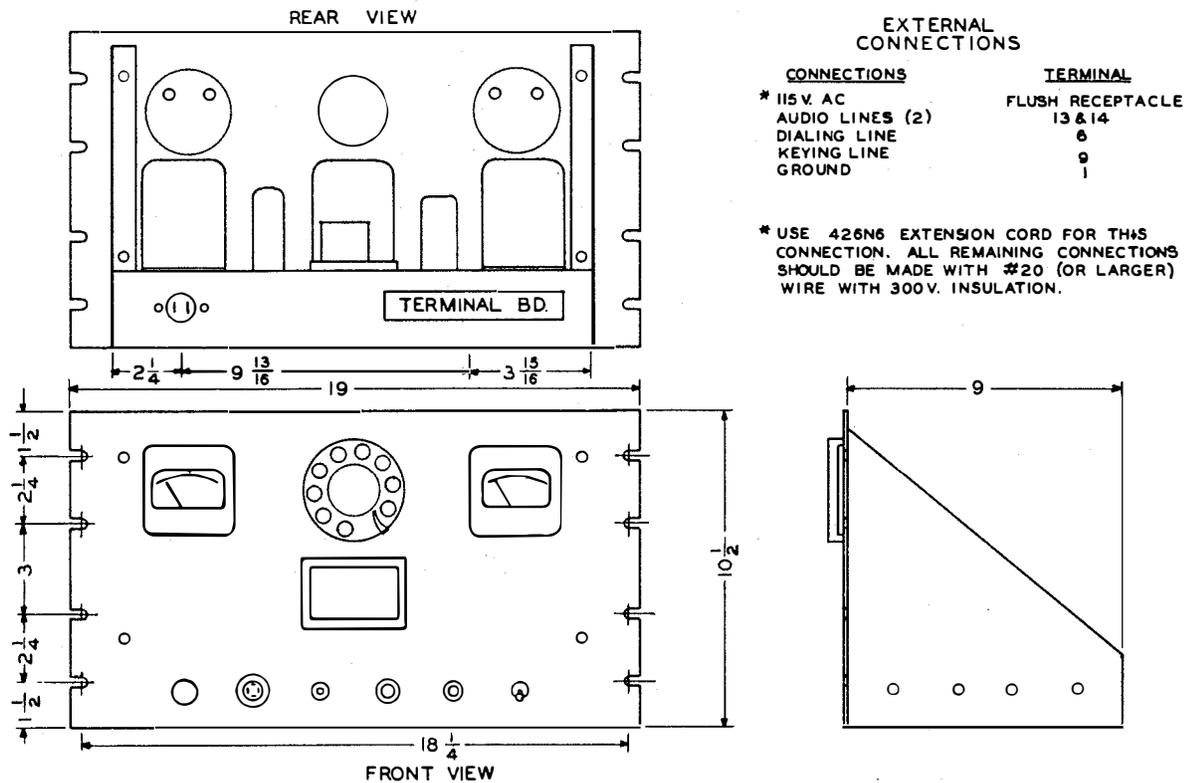

Fig. 22 Remote Control Unit Installation (Dwg. No. 2168A)
3.6. REMOTE UNIT. The remote control unit is designed for relay rack mounting. The unit will fit the standard 19 inch relay rack. Refer to Fig. 22. All connections to the unit are made to a terminal strip and plug on the rear of the chassis.